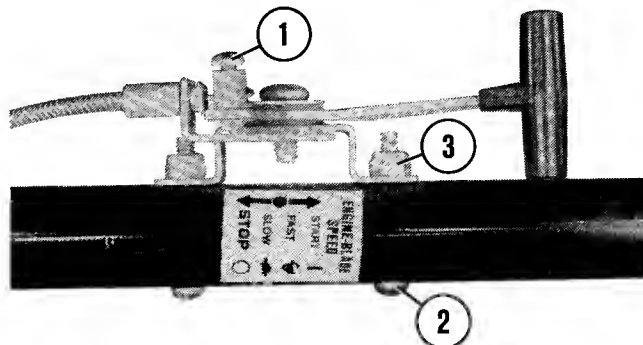

Figure 8 Throttle Control Lever
A. Mount the throttle control assembly onto the cross-bar of the upper handle as shown in Fig. 8.
### Throttle Control (Fig. 8)